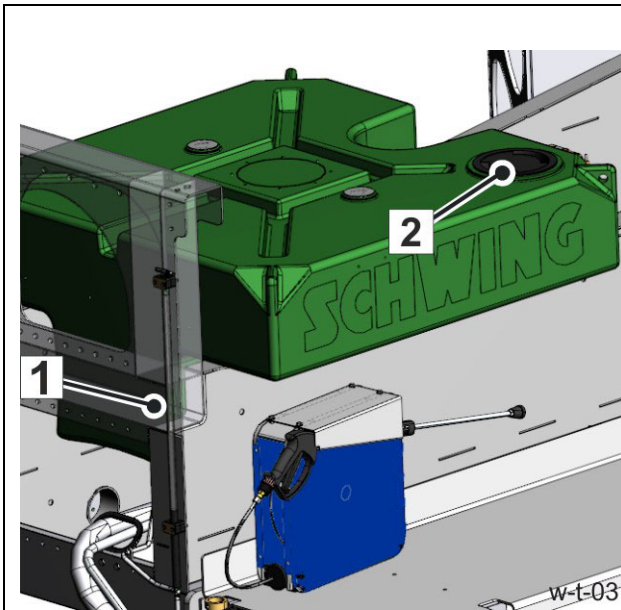

Fig. 48 Example: Water case
1. Check the filling level of the water case on the level indicator, e.g., (1) (Fig. 48) at the rear of the machine.
2. Fill clean water through the filling neck, e.g., (2) (**Fig. 48**) on the top of the reservoir.
1. Remove the filling cap (2) (**Fig. 48**) on the top of the water case.
Fill the water case (**Fig. 48**) using a water hose via the above filler cap if safe filling via the water connection (12) is not possible.